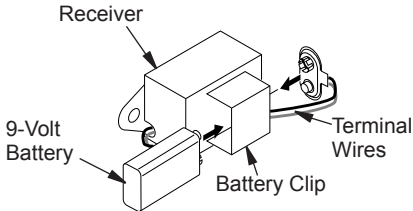

Figure 29 - Attaching Battery to Receiver
2. Locate the battery clip mounted on the back of the receiver (see Figure 29).
4. Attach the terminal wires to the battery (see Figure 29).